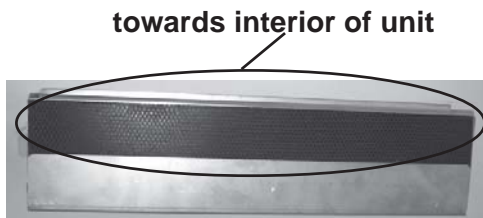

Figure 2
8. Replace diffuser properly into unit. Looking at the under-side of the diffuser assembly, the plastic diffuser must go towards the inside of the unit. Figure 2.